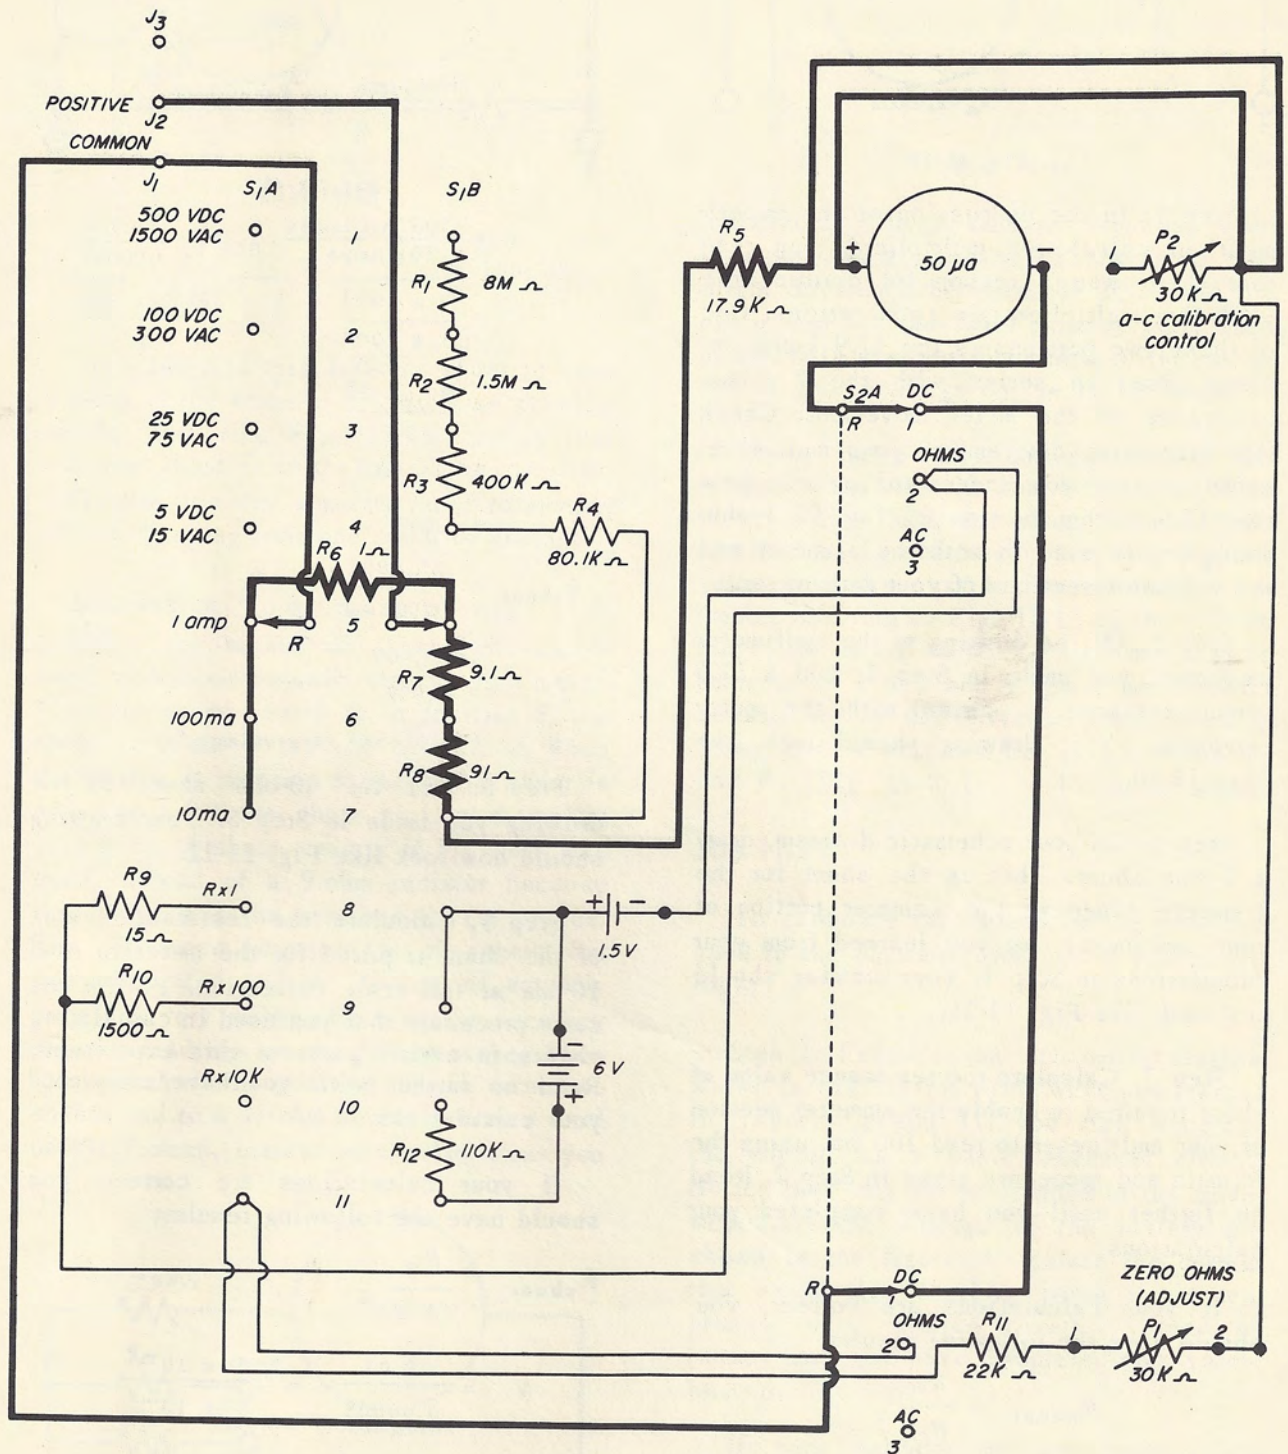
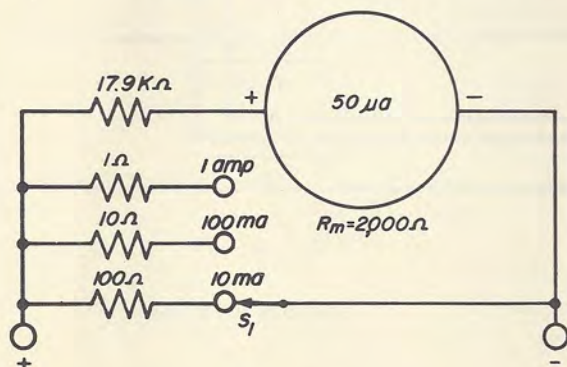

Fig. 11-9
Fig. 11-13
Step 3. Look at Fig. 11-9. Notice that the shunt used for the 1-ampere range of your multimeter is 1 ohm and not 0.1 ohm. This difference between the value you calculated and the actual value of the shunt used in the circuit is due to some very practical considerations.
Step 10. Add this 100-ohm shunt to your drawing of the ammeter circuit. Your drawing should look like Fig. 11-13. Notice that only one shunt is in the circuit at one time. Switching from one ammeter range to another means changing from one shunt to another.
**Discussion.** Look again at Fig. 11-9. Compare the values of shunts you calculated with those actually used in your meter. When the range switch is in position 5, the shunt is 1 ohm — as you calculated. When the switch is position 6, the 1-ohm shunt is added to a 9.1-ohm shunt, making a total of 10.1 ohms. A shunt resistor of 9.1 ohms was used instead of a 9-ohm resistor because this value was the standard RETMA value. The difference between the 10 ohms that you calculated and the 10.1 ohms actually used has very slight effect on the accuracy of your readings on the 100-ma range. When the switch is in position 7, the first two shunts add to a 91-ohm shunt, making a total of 101.1 ohms, instead of the 100 ohms you
Thus, the values calculated with the simple shunt formula can be translated to those of the Universal shunt formula. This can be done by subtracting any simple shunt value from the next higher value. For example, referring to Fig. 11-13 on the 100-ma range, the shunt should be 10 ohms; this is made up of 1 ohm and 9 ohms, which would be obtained by the Universal shunt formula. Thus, the 10-ohm resistor becomes the  $R_6$  and  $R_7$  (Fig. 11-9) in the Universal shunt.